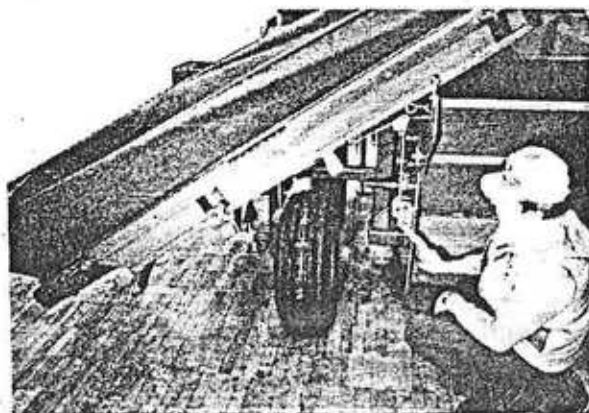

FIGURE 15
2. Lower side conveyor to operating position with winch. Figure 15